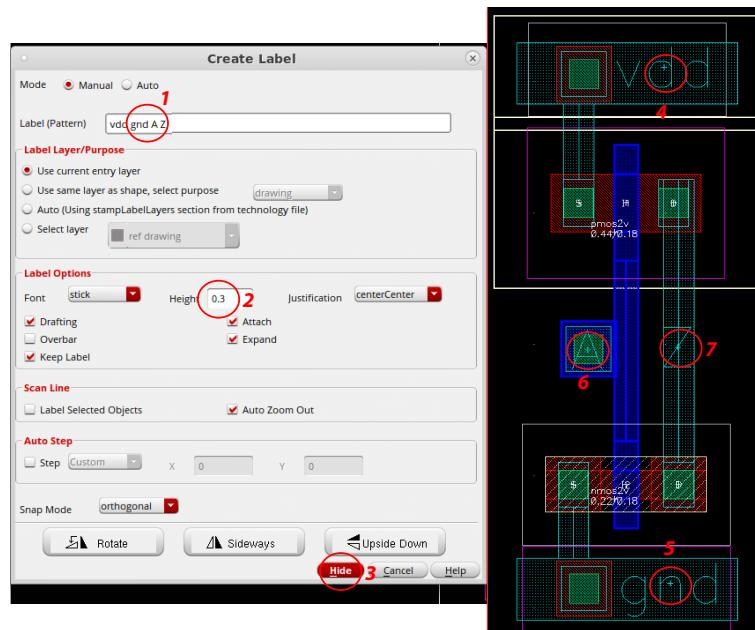

Figure 13: Final inverter layout.
- Your layout should be complete now and look like Fig. 13. In the next part, you will verify it and correct the potential errors.